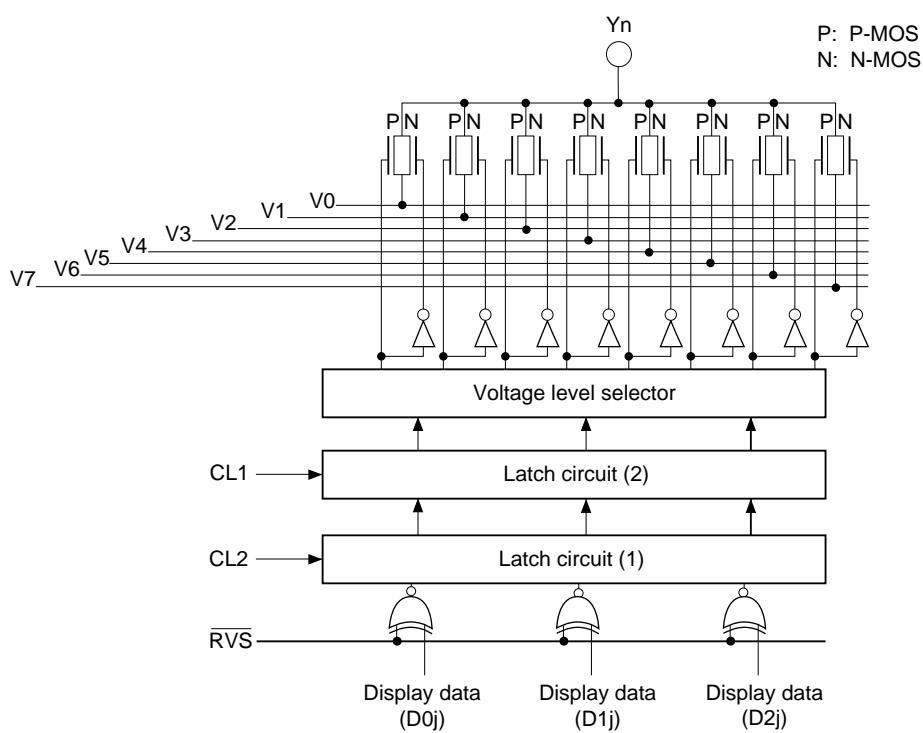

Figure 4 LCD Driving Circuit
The HD66310 internal circuit unit for one data output is shown in figure 4. The circuit receives 3-bit data (D_{0j} , D_{1j} , D_{2j}) and selects one of eight voltage levels (V_0 – V_7) to output to the LCD.
- As shown in figure 4, the data reverse circuit is before the latch circuit (1). The LCD driving output is reversed one CL1 period after a transition of the **RVS** signal, as shown in figure